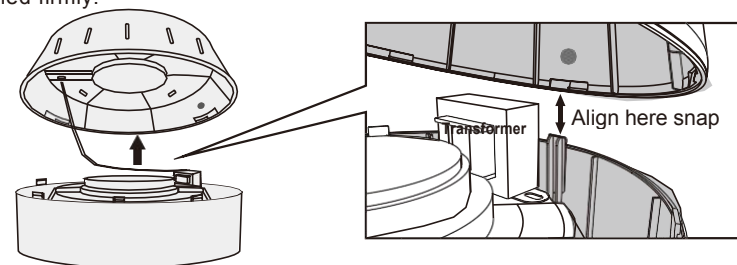
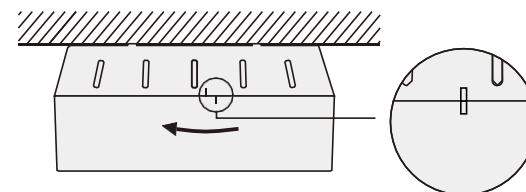

Figure 4
Figure 5
4. Buckle with one end of the projection of the transformer in the base, the female buckle top with blue dots alignment mark, push in parallel (As show in figure4). counter clockwise rotation base, hear a click, align the edge line that fastens the top cover and the pedestal (As show in figure 5), check whether the equipment is installed firmly.